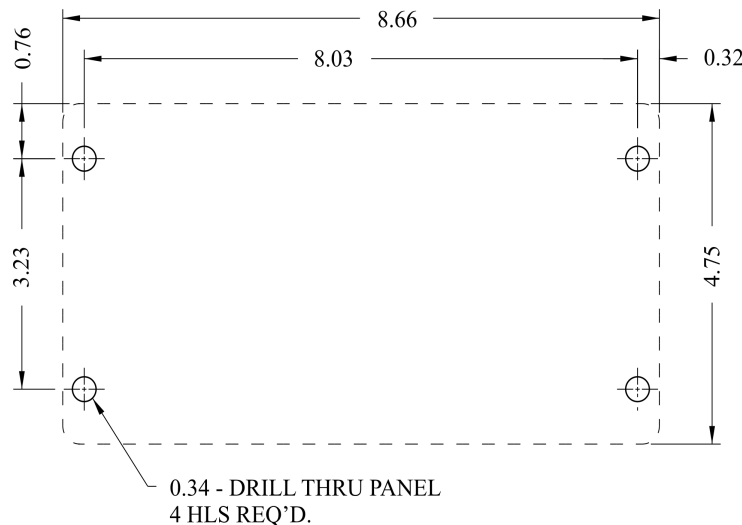

Figure 10
- Mark enclosure-mounting holes on panel or bracket to which enclosure will be mounted per dimensions in Figure 10.
- Drill (4) 11/32" diameter holes in panel or bracket.
- Remove (4) 5/16-18 bolts and lock washers from back of enclosure. Apply Loctite® #242 to bolts and install through panel or bracket into back of enclosure. Tighten bolts.